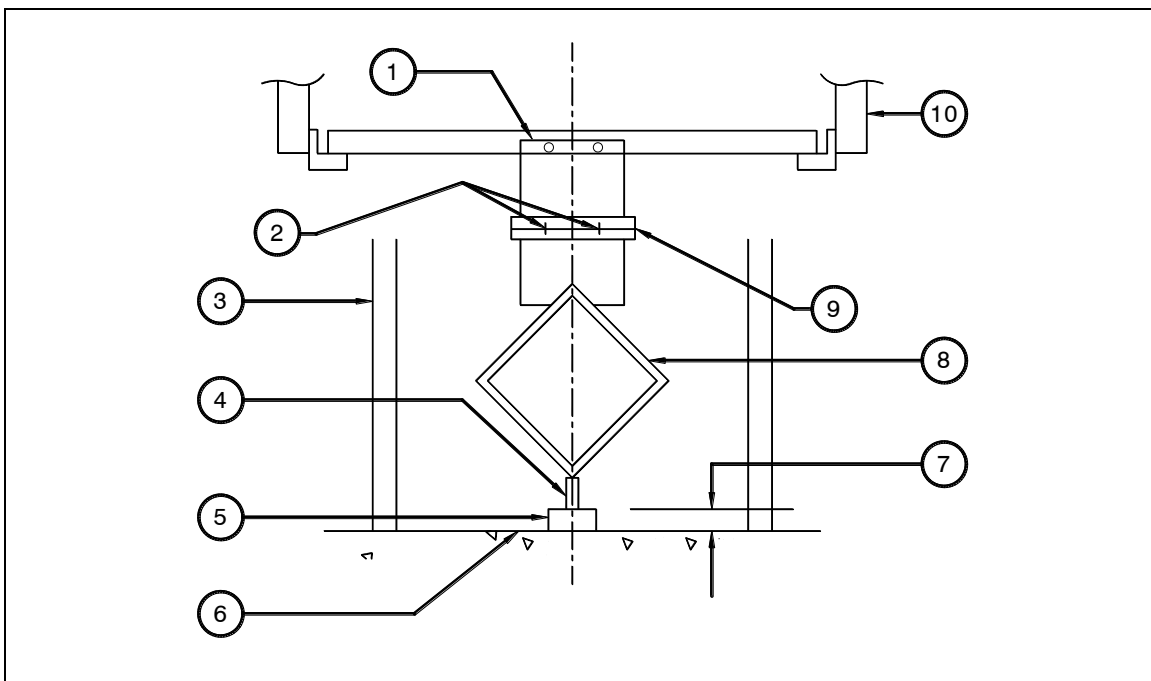

Figure 2.13a
1. Assemble the sludge ducts in place under the rake arms. Include the gaskets at each connection and the duct flange at the manifold flange. The duct blade should be in line with the centerline of the arm, as shown in Figure 2.13a. The duct supports will not be installed at this point.